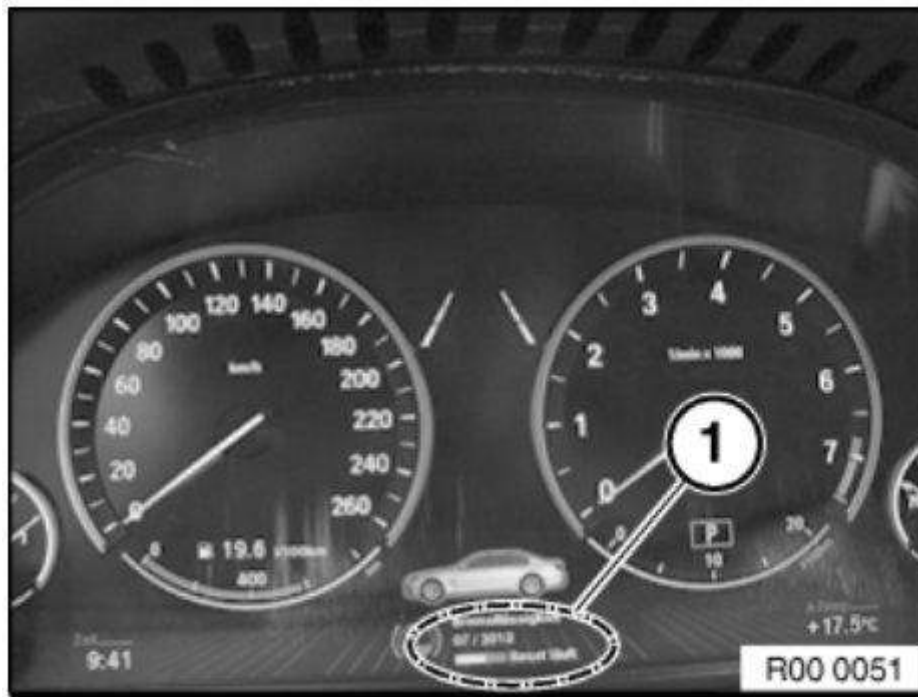

Fig. 13: Identifying Condition Based Service (CBS) Instrument Panel Controls & Display (4 of 5)
8. The status of the reset is indicated in the display by a progress bar and in text as "Reset running". See Fig. 13.